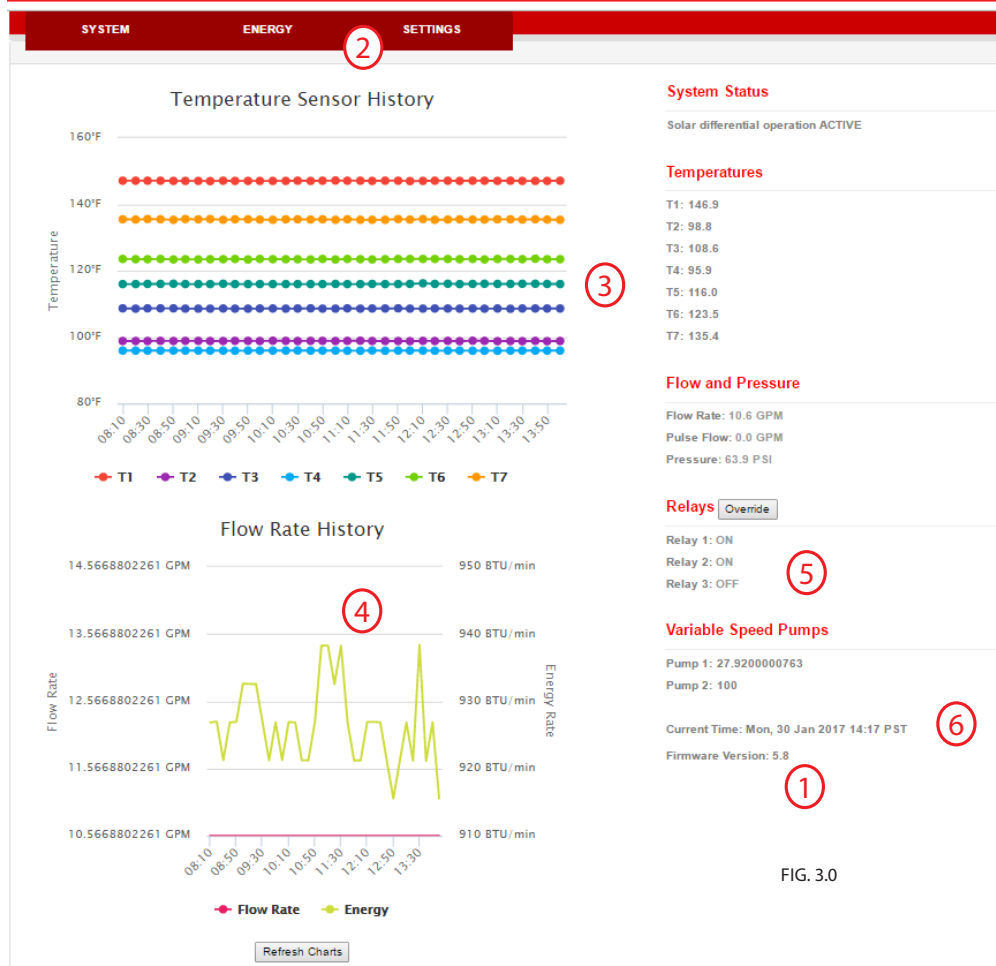

FIG. 3.0
- Open a new browser window and enter the controller's address: **192.168.7.2** in the address bar and hit enter/return key. If the controller user interface (see Fig. 3.0) does not come up right away, refresh your browser. Note the user interface might take up to one minute to load completely depending on the web browser and OS.